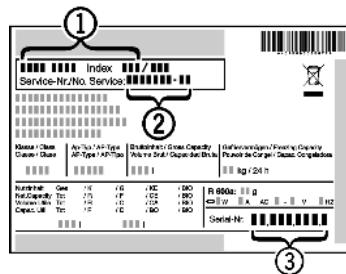

Fig. 6
- ▶ Read the appliance designation *Fig. 6 (1)*, service no. *Fig. 6 (2)* and serial no. *Fig. 6 (3)* from the rating plate. The rating plate is located inside the appliance on the left-hand side.
- ▶ Notify a qualified service provider, specifying the fault, appliance designation *Fig. 6 (1)*, service no. *Fig. 6 (2)* and serial *Fig. 6 (3)* no.